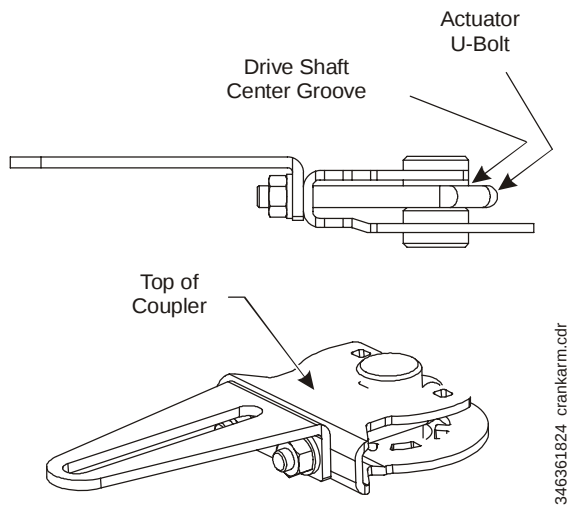

Figure 5: Actuator Crankarm Assembly (Actuator not shown)
5. Tighten the actuator u-bolt hex nuts using the recommended torque of 11.3 to 16.9 N·m (100 to 150 lb-in.). See Figure 5.